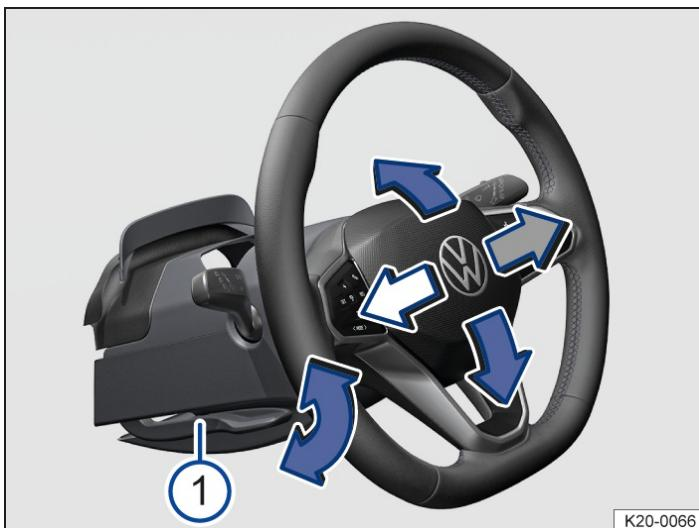

Fig. 1 Below the steering wheel in the steering column trim:
1. Push down the lever → Fig. 1 .
- After adjusting the steering wheel, always move the lever → Fig. 1  up firmly. This prevents the steering wheel from moving accidentally while the vehicle is in motion.